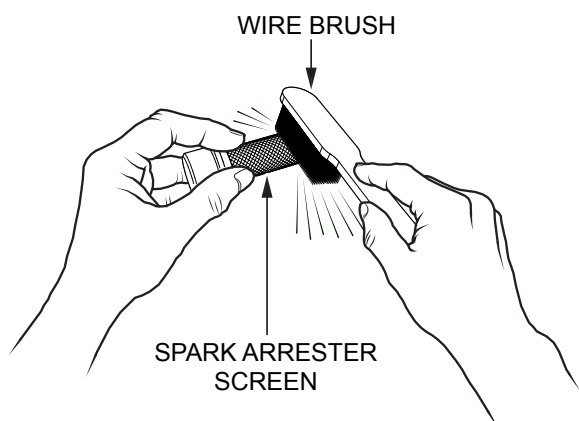

Figure 56. Cleaning the Spark Arrester
4. Carefully remove carbon deposits from the spark arrester screen (Figure 56) with a wire brush.